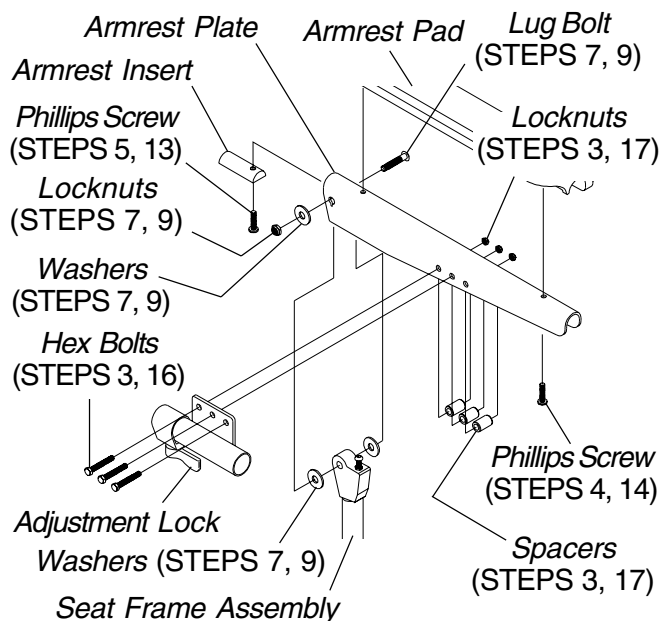

FIGURE 1 - REPOSITIONING MKIV AND RII JOYSTICK - CAPTAIN'S SEATS
Captain's Seats (FIGURE 1)
3. Remove the three (3) hex bolts, spacers and locknuts that secure joystick mounting bracket to armrest plate.
9. Position armrest plate with joystick mounting holes on desired side of seat frame assembly and secure with lug bolt, washers and locknut. Refer to FIGURE 1.
10. Position armrest plate without joystick mounting holes on opposite side of seat frame assembly and secure with lug bolt, washers and locknut. Refer to FIGURE 1.
16. Install Loctite 242 onto the three (3) hex bolts.
17. Install the three (3) hex bolts, spacers and locknuts that secure joystick mounting bracket to armrest plate.